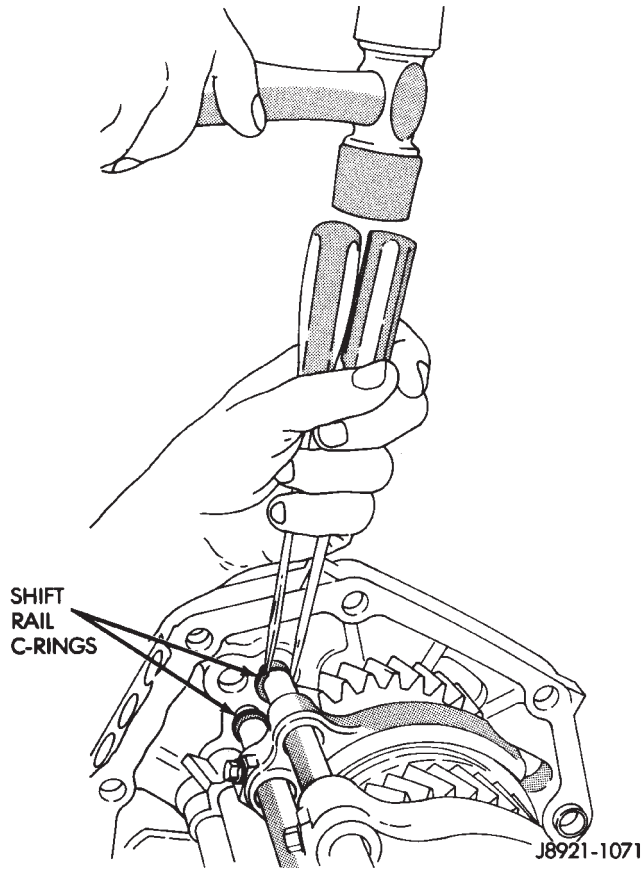

Fig. 42 Shift Rail C-Ring Removal
(2) Remove 1-2 and 3-4 shift rail C-rings with two screwdrivers of equal size and length (Fig. 42).